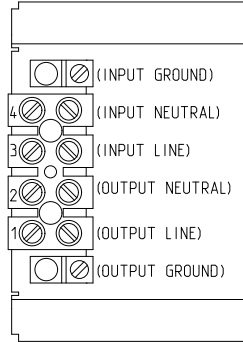

Figure 18. UPS Terminal Block
6. Connect the input and ground wires to the terminal block according to Figure 18 and Table 1.
7. Connect the output and ground wires to the terminal block according to Figure 18 and Table 1.